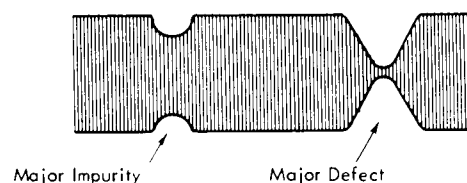

Figure 105. Tape Output Pattern
3. A defect then appears as a *glitch* on the pattern (Figure 105).